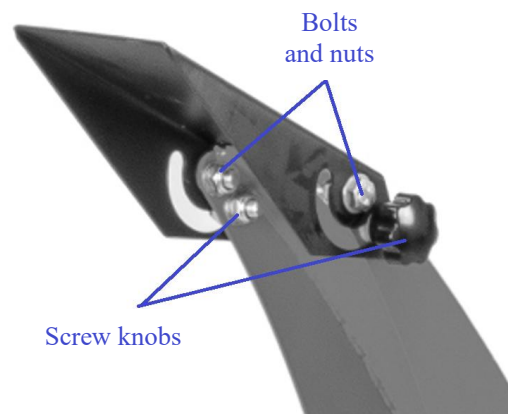

Fig. 7
- Attach the deflector (15) to the discharge chute (14) at the pivot point using the supplied bolts and nuts.
- Install the screw knobs onto the deflector using the provided nuts. These knobs allow you to adjust the discharge angle. See Fig. 7 for details.